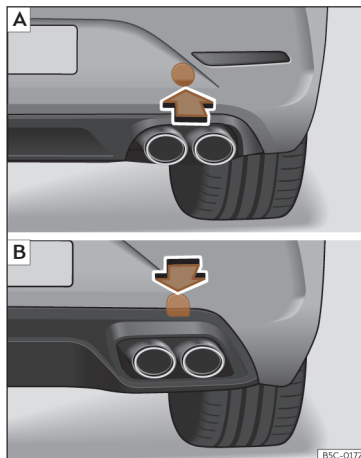

Fig. 209 Rear bumper on right: remove the lid. **A** Leon Sportstourer; **B** Leon.
The housing of the screw towing eye is on the right side of the rear bumper behind a lid >>> **Fig. 209**.
- *Leon Sportstourer*: Press the lower side of the lid >>> **Fig. 209 [A]** to unclip it.
- *Leon*: Press the upper side of the lid >>> **Fig. 209 [B]** to unclip it.
- Screw the towing eye in the housing by turning it to the maximum **anticlockwise** >>> **Fig. 209**, >>> **Fig. 209**. Use a suitable object that can completely and securely tighten the towing eye in its housing.